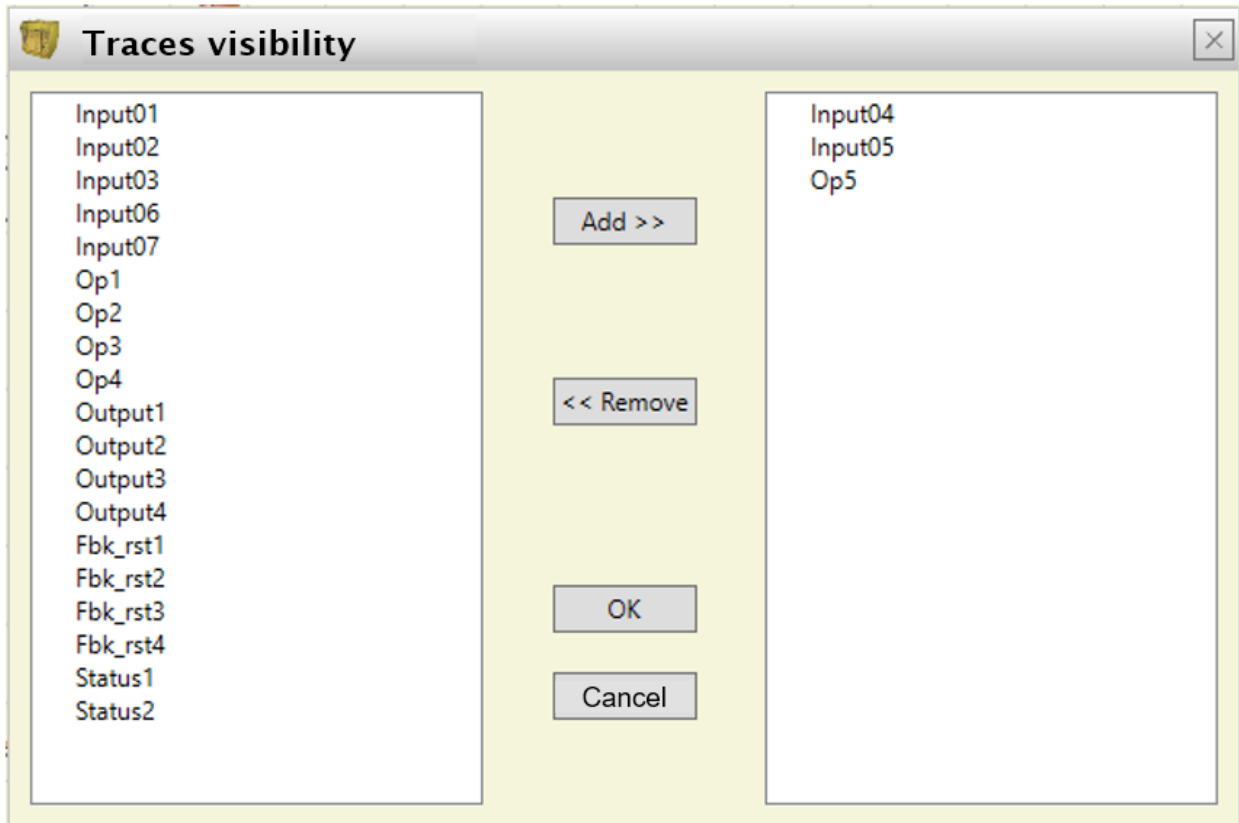

Figure 164 - Traces visibility.
**Traces visibility:** used to select the traces (signal waveforms) to be displayed in the graph. When you press this key, it opens a pop-up window as shown in Figure 164 from which you can add or remove traces to or from the graph.